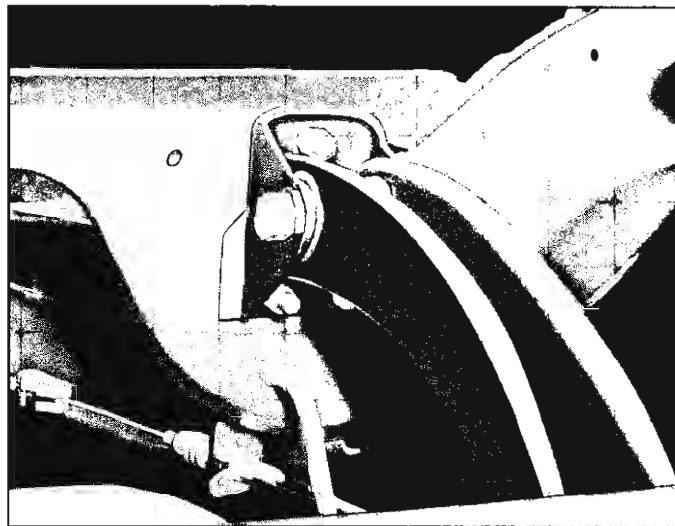

Fig. 46—Rear Shim Location
- 2. Install two No. 3750050 shims under the center bearing mounting and add one No. 3758116 spacer to the existing shim pack at the rear suspension upper control arm attachment (see fig. 46). Road test the vehicle with five or six passengers and one or two passengers.